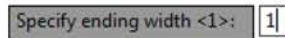

Fig. 2.6 Enter 1 as the desired starting width of the polyline and *right-click*
- The prompt shown in Fig. 2.6 appears. Enter 1 in the **Width** box and *right-click*.